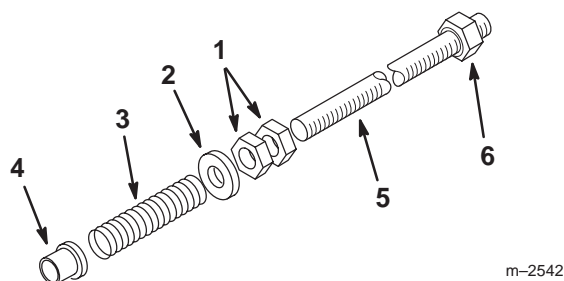

Figure 7
3. Thread two 2 jam nuts (13 mm (1/2 inch)) approximately 23 cm (9 inch) up on each adjusting shaft (Fig. 7).
4. Slide a spacer (13 mm (1/2 inch)), spring, and bushing onto each adjusting shaft. Make sure to install the bushing with the flange end against the spring (Fig. 7).